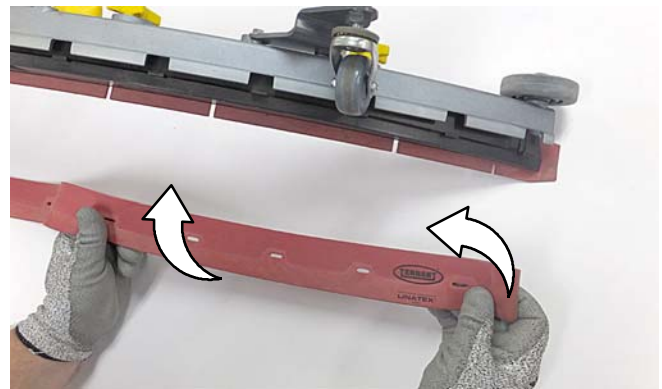

FIG. 91
4. Rotate the rear blade to a new wiping edge and reinstall blade (Figure 91). Make sure to align the slots in the blade with retainer tabs.